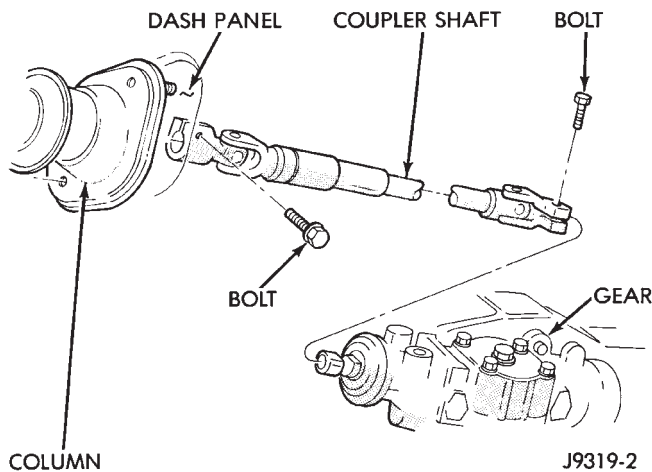

Fig. 5 Coupling Shaft
(3) Remove the shaft pinch bolt at the steering gear and column (Fig. 5). Unbolt steering gear from frame rail to remove shaft. Refer to Steering Gear Replacement in this section.